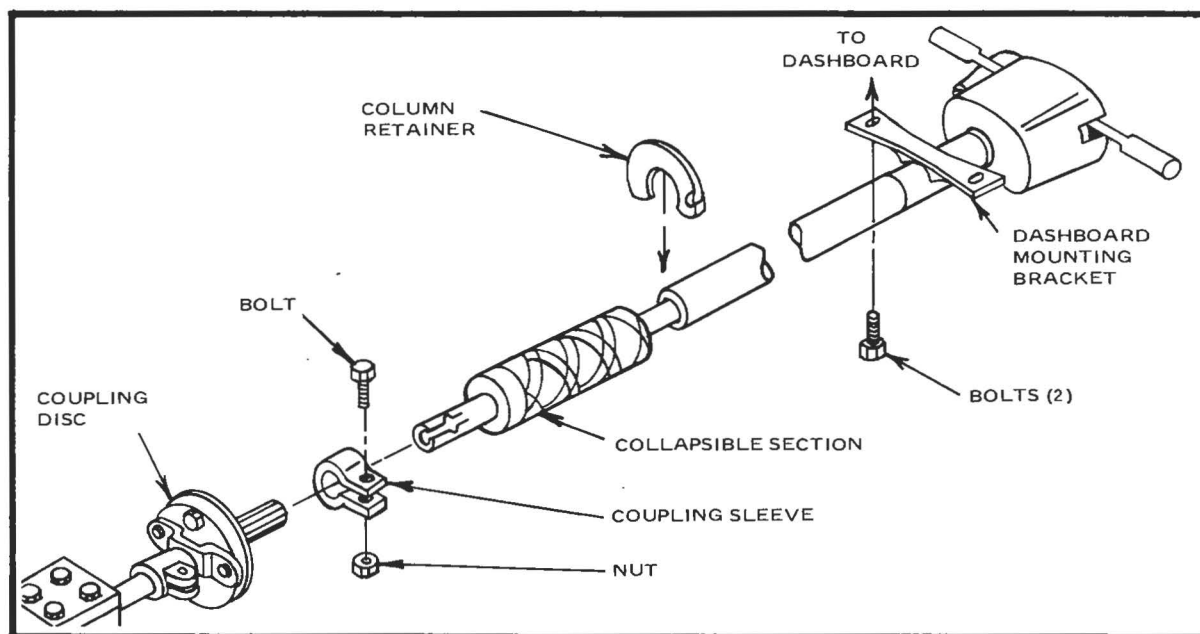

Figure 3
- ☐ Remove the bolt from the coupling sleeve that attaches the steering column to the coupling disc. (Figure 3)